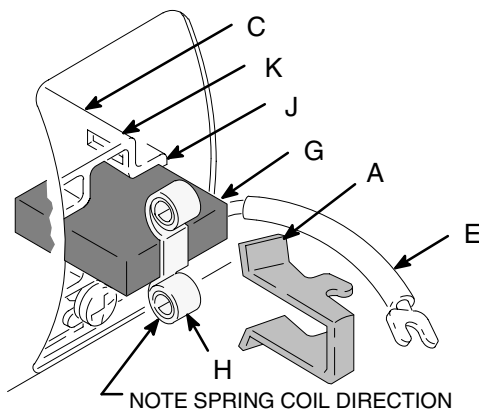

Fig. 6
8. Fig. 6. Install new brush (G) with lead in long slot (J) of brush holder (C).
10. Fig. 6. Place spring (H) on brush (G).
11. Fig. 6. Install spring clip (A). Push down to hook short slots (K) in brush holder (C).